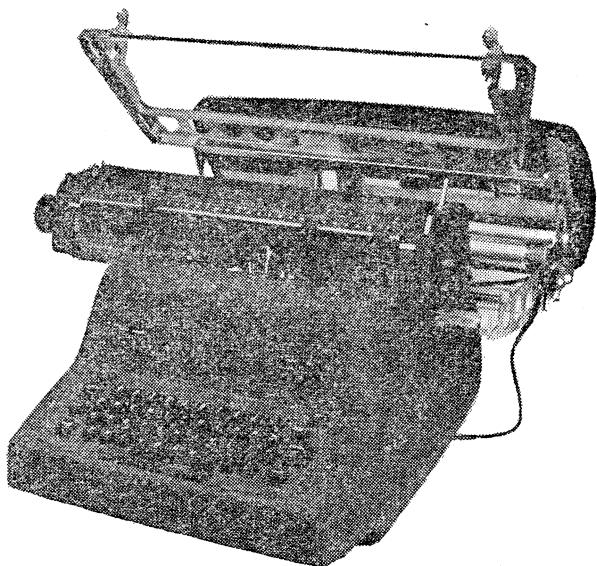

Figure 4. Hektewriter Attachment Raised
8. Mount the Hektowriter to the typewriter (Figure 4). Tighten the mounting screws and couple the connecting plug to that of the impulse emitter.
With the auxiliary carriage lowered in operating position, the motor switch connects both the typewriter and Hektewriter to the power supply. When the auxiliary carriage is tilted up by releasing its latches it automatically raises the paper bail and opens a microswitch, cutting off the power connection. With the auxiliary carriage in this raised position the typewriter can be used for normal typing (Figure 4).